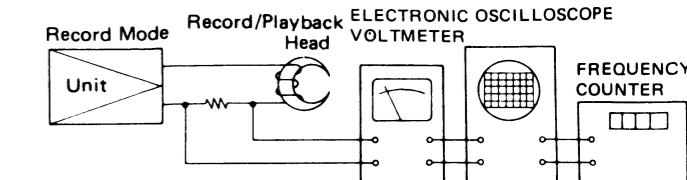

Figure 6-3
1. Connect instruments as shown in Fig. 6-3.